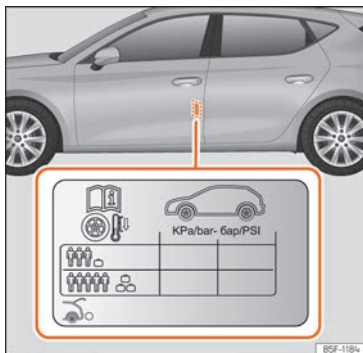

Fig. 209 Location of the tyre pressure sticker.
- Adjust tyre pressure to the load being carried by the vehicle »» **Fig. 209**.
The tyre inflation pressures are listed on a sticker on the rear of the front left door frame »» **Fig. 209**.
»» **Fig. 209**.
In the case of a minimised temporary spare wheel (125/70 R16 or 125/70 R18), inflate to a pressure of 4.2 bar as indicated on the tyre pressure label »» **Fig. 209**.
- The driver is responsible for ensuring that all of the vehicle tyres are correctly inflated to the right pressure. The recommended tyre pressure is indicated on the label » Fig. 209.
- When the tyres are cold, tyre pressure should be that indicated on the label » Fig. 209.